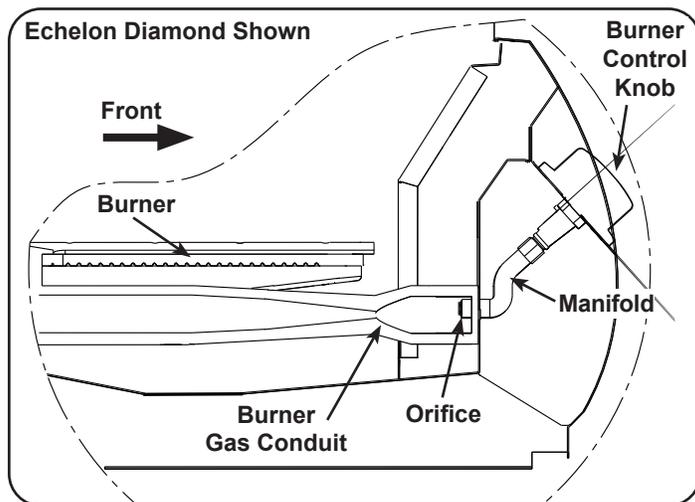

Fig. 3-3 Orifice location cut away side view
1. Use a  $\frac{3}{8}$ " hex nut driver to remove the exposed gas orifice and replace it with the correct orifice for the new infrared burner included with your kit (See Table 1 for the correct orifice). Also reference Fig. 3-1, Fig. 3-2 and Fig. 3-3).